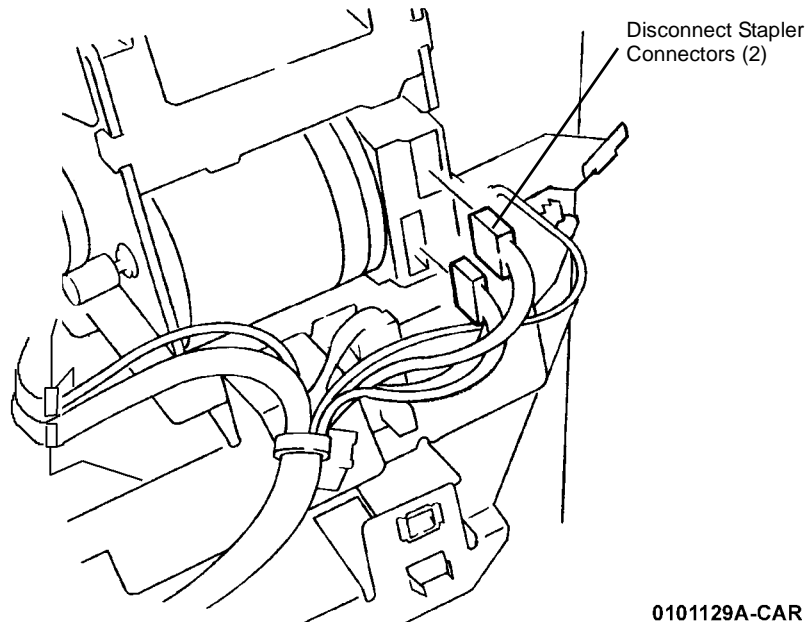

Figure 1 Disconnecting Connectors
2. Disconnect Stapler Connectors (2) (Figure 1).